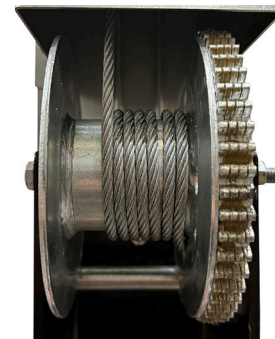

Figure 2-1: Cable Wrapped Tightly and Evenly
2. Make sure cable wind/loop is in the correct orientation. The cable should always enter and exit the winch reel on the reel side away from the mast (not facing the mast). See Figure 2-1.
3. When operating the winch, make sure the cable winds tightly and evenly on the drum (see Figure 2-1). Do not allow the cable to bunch on one side of the drum or become crisscrossed or tangled. If this happens, wind the affected cable off the drum and re-wrap correctly.